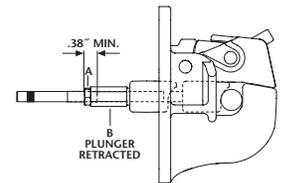

FIGURE 1
3. Use (8) .75" grade 8 fasteners, properly tightened. The recommended minimum torque is 200 ft-lbs., per SAE J429.
- A. Loosen cylinder rod jam nut (A) as shown in **FIGURE 1**.
- B. Turn the plunger rod (B) out (counterclockwise) a distance equal to the difference between your mounting structure thickness and 1".
- C. Retighten cylinder rod jam nut (A) securely.
8. Check the plunger adjustment. When properly adjusted, the plunger should tightly grip a 1.25" round bar (or plunger adjustment tool TF-03147) when energized (see **FIGURE 1**) and retract far enough when de-energized to allow easy removal of the drawbar.